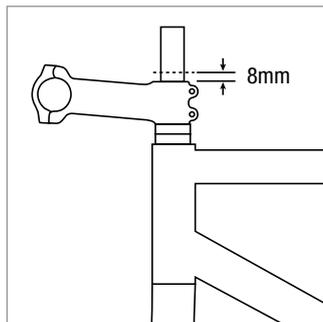

Figure 5
7. Install the stem on the steerer ensuring that it is flush against the spacers. Ensure the steerer tube extends at least 8mm (Fig. 5).